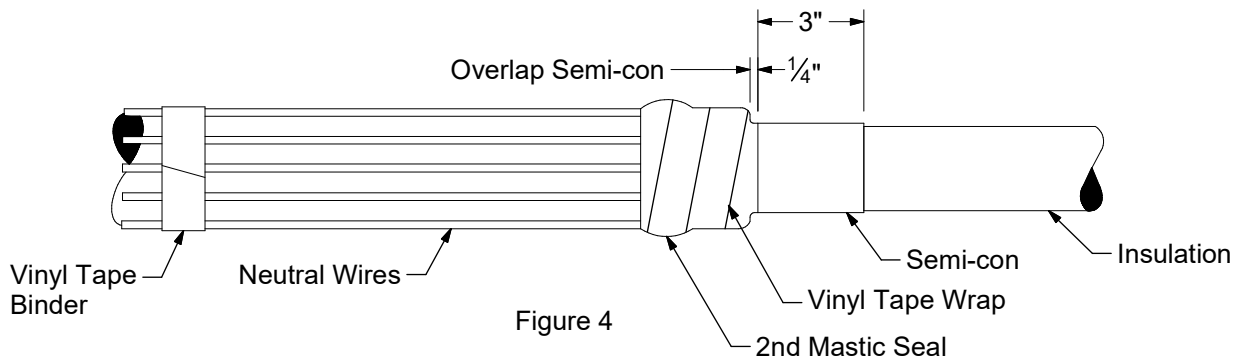

Figure 4
5. Compress neutral wires into mastic by over-wrapping seal strips with two half-lapped layers of highly-tensioned Scotch Vinyl Electrical Tape Super 88. Cover all exposed mastic and neutral wires, overlapping 1/4" onto the exposed cable semi-con. (Figure 4) Take care to leave 3" of exposed semi-con.